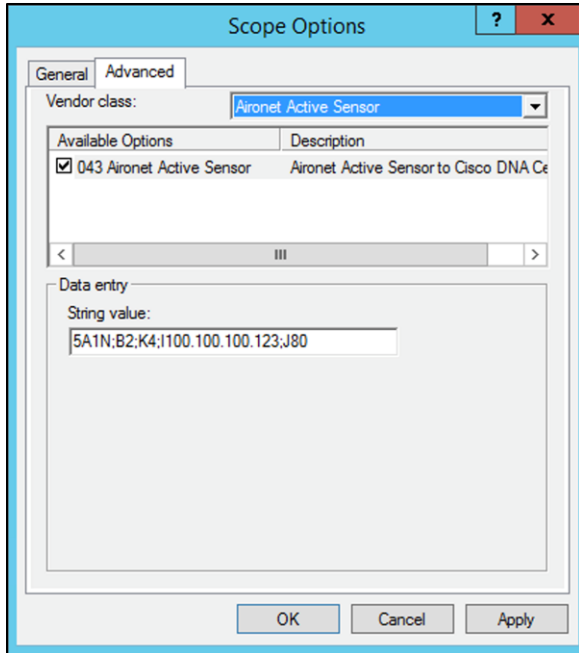

Figure 37.
- Under your DHCP IP Scope, right-click on **Scope Options** and a **Scope Options** dialog will appear (**Figure 37**).